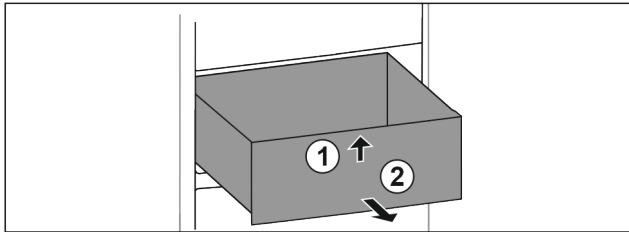

Fig. 166
- ▶ Lift up drawer at the front. Fig. 166 (1)
- ▶ Remove drawer to the front. Fig. 166 (2)